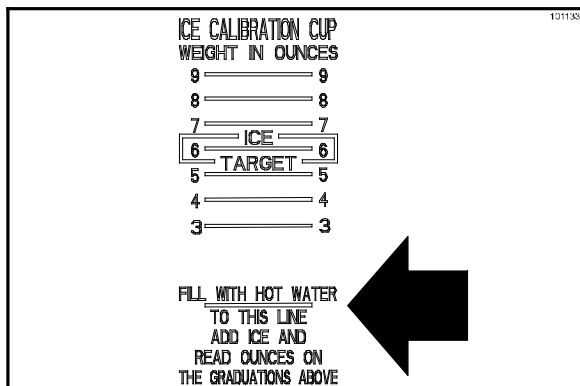

Figure 133
8. Fill the large calibration cylinder with hot water from the coffee maker, up to the water level line. (See Figure 133.)